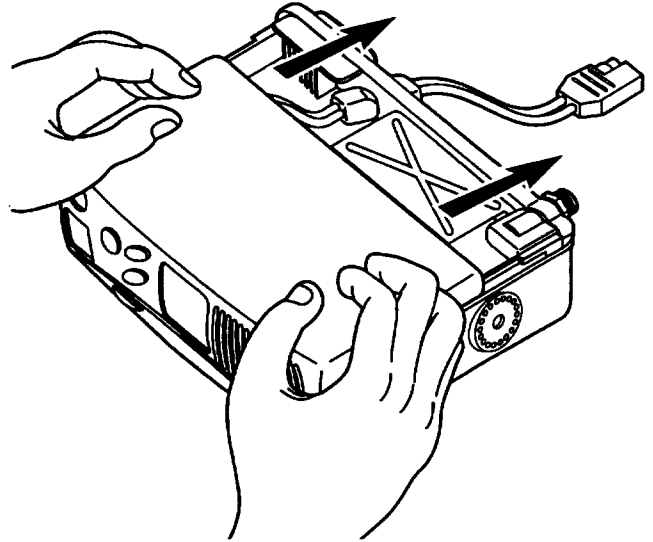

Figure 1-4. *Aligning the Heatsink to the Housing Rails*
1. With the radio on a flat surface, place the housing approximately halfway onto the heat-sink (Figure 1-4).
2. Using both hands, press downward on both sides of the housing to assure that the heat-sink and the housing rails are properly aligned (Figure 1-4).